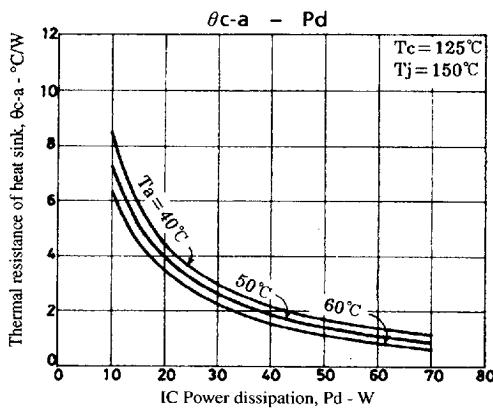

Figure 3. STK4171V $\theta_{c-a} - P_d$
Figure 3 shows the relation between P_d and θ_{c-a} given from (1) and (3) with T_a as a parameter.
The thermal resistance of a heat sink is obtained from Figure 3.